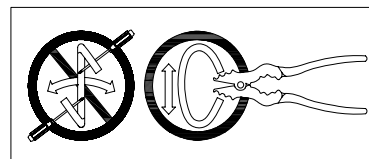

Fig.3
CONNECTING THE WIRES (Fig.3)
16. Connect the electrical wire as shown in figure 3, making sure that all wire connectors are secured. If your outlet has a ground wire (green or bare copper), connect the fixtures ground wire to it. If the junction box has no ground wire, attach the bare copper fixture wire to the green ground screw (Screw: #8-32*3/8"L) on the crossbar. Tuck the wire connections neatly into the ceiling junction box.